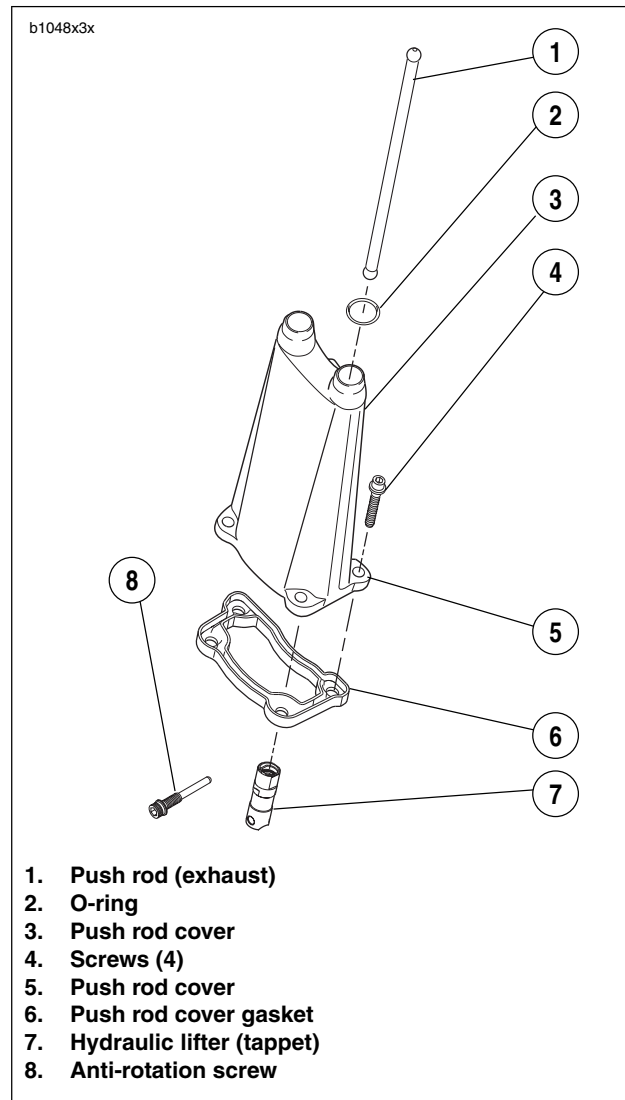

Figure 3-123. Valve Lifter Service
4. See Figure 3-123. Remove push rod covers.
3. See Figure 3-123. Insert lifter into bore in crankcase. Rotate lifter so that flats at upper end of lifter face the front and rear of the engine. If the lifter is installed incorrectly, anti-rotation screws cannot be inserted.
5. See Figure 3-123. Install push rod cover.